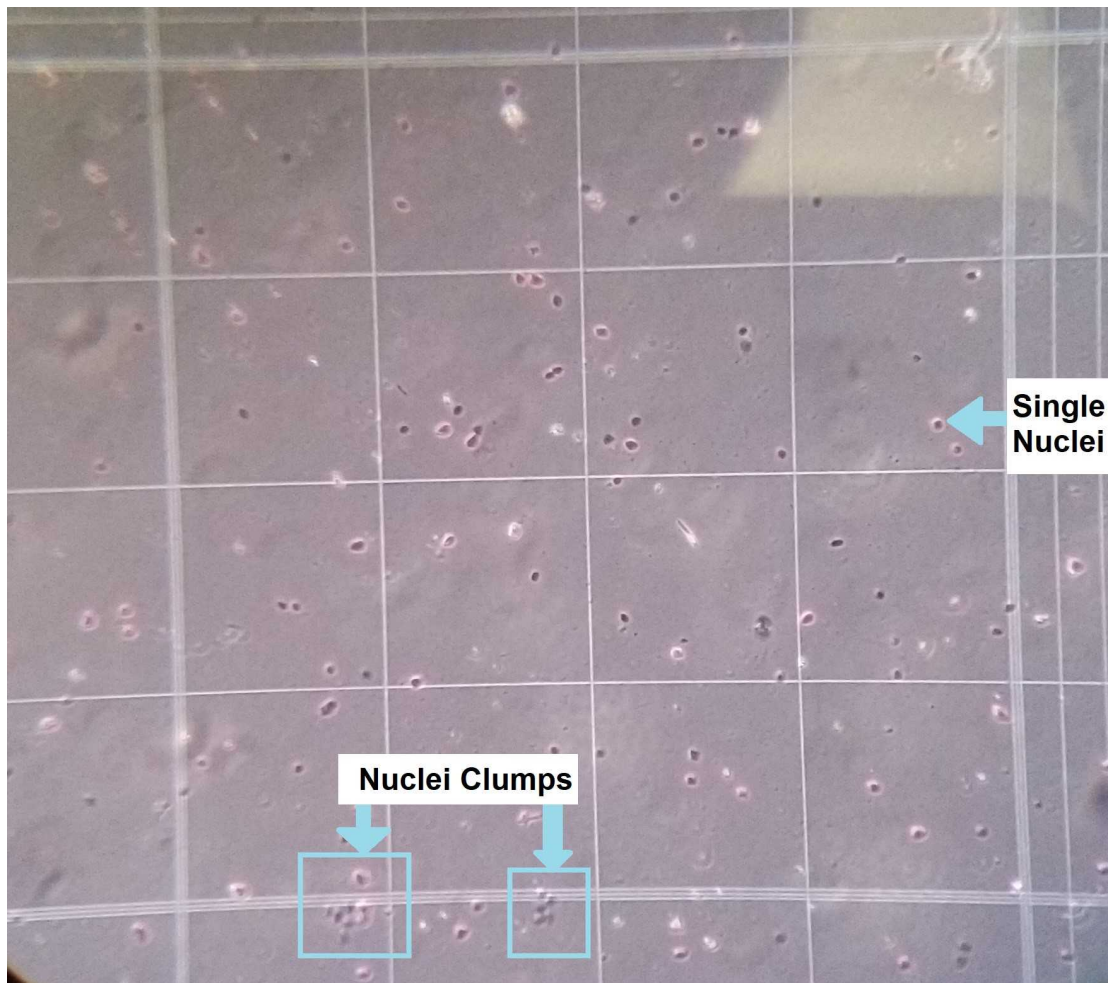

Figure 4. A 10x objective view of what a single nuclei versus a nuclei clump looks like on a hemocytometer.
- 32 Remove the nuclei-containing solution from the LoBind tube and transfer it to a 1.5 mL Eppendorf tube (pre-coated with BSA the day before) ⚠ **On ice** . Place the sample ⚠ **On ice** . Use 500uL of ice-cold 1X PBS to rinse out each tube and place that liquid into your corresponding pre-coated BSA tube, as well (final volume of nuclei solution will be 1mL) ⚠ **On ice** . Check and count the nuclei with a hemocytometer by adding 10uL of sample into a new 1.5mL Eppendorf tube and mixing it with 10uL of Trypan Blue (see **Figures 4 and 5**).